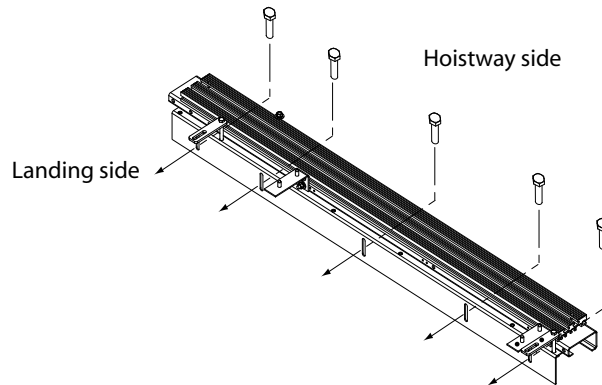

Figure 6 Attach Sill Assembly to Building Structure
2. From inside the hoistway, attach the sill assembly to the building structure at the door wall using five 3" anchor bolts (see Figure 6). Ensure the full length of the bolts reaches the load bearing wall.